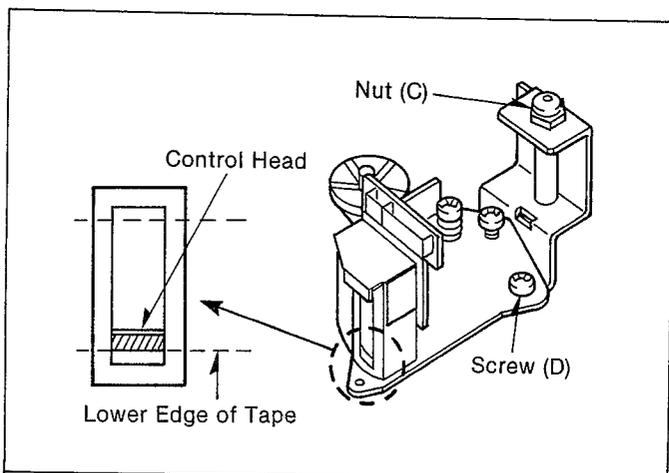

Fig. M28
With the tape running, look at the lower edge of the control head by using the check light and check if the lower edge of tape runs along the lower edge of the control head. If it doesn't, slightly turn the nut (C) behind the A/C Head (Fig. M28) to either lower or raise the A/C head so that the tape runs along the lower edge of the control head. Turn the nut (C) clockwise to lower the head, and counter-clockwise to raise it.